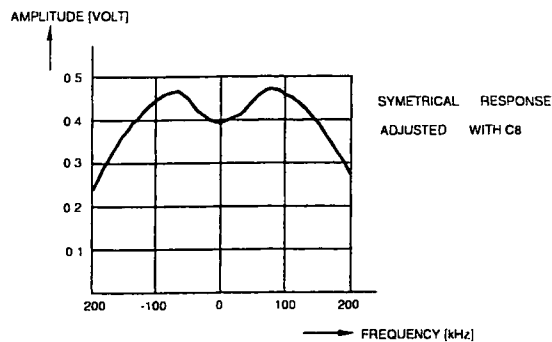

Figure 22 "Two humps"
9. On the image monitor a response is displayed with two 'humps'. Use trimmer C8 on the front of the hybrid box to get a symmetrical response, i.e. the amplitude of the two 'humps' must be as identical as possible. See Figure 22.